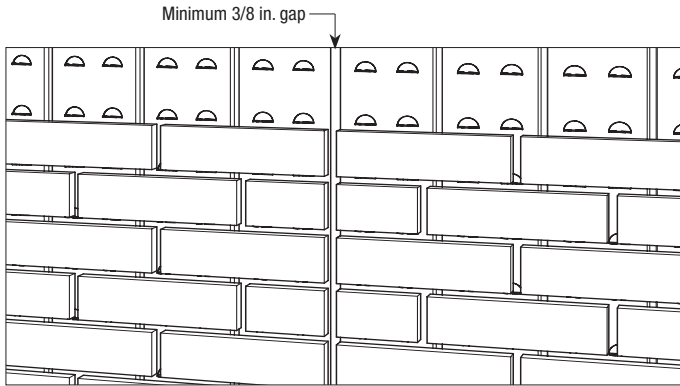

FIGURE 11
- Where movement joints occur between Thin Tech panels, leave a minimum 3/8 in. gap between brick units for backer and sealant (see Figure 11).